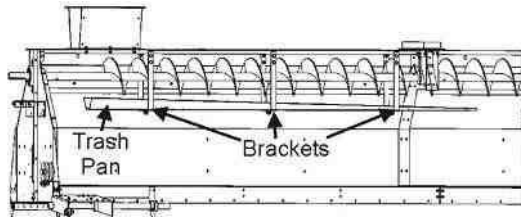

Fig. 2-10 – Trash pan and bracket installation
1. Bolt trash pan brackets into wet bin on filling end of dryer. Bolt trash pan to trash pan brackets. See Fig. 2-10.